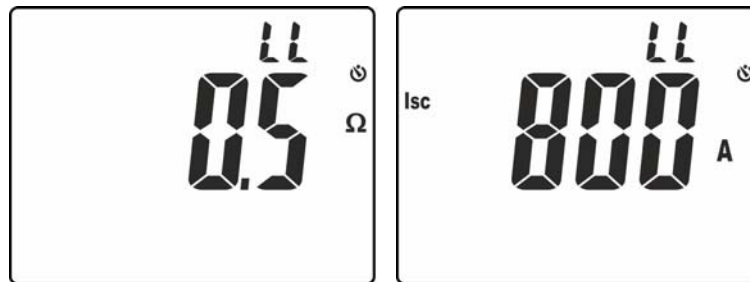

Fig. 28: Results of Loop L-L impedance measurement
12. The screen in Fig. 28 – left side, shows the value of Loop L-L impedance. Press keys $\blacktriangledown/\text{H}$ or $\blacktriangle$ to display the value of the assumed short-circuit current **Isc** (see § 9.3)